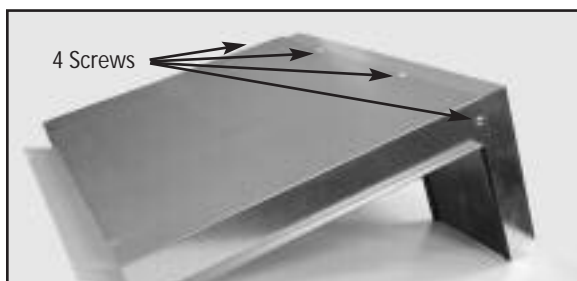

Fig. 01
1. Insert the rear section of the duct into the forward section of the duct and install 4 screws supplied (Fig. 01).